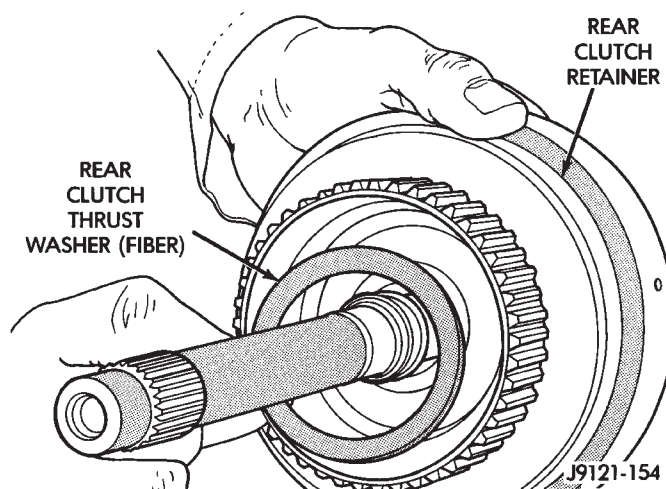

Fig. 68 Installing Rear Clutch Thrust Washer
(15) Coat rear clutch thrust washer with petroleum jelly and install washer over input shaft and into clutch retainer (Fig. 68). Use enough petroleum jelly to hold washer in place.